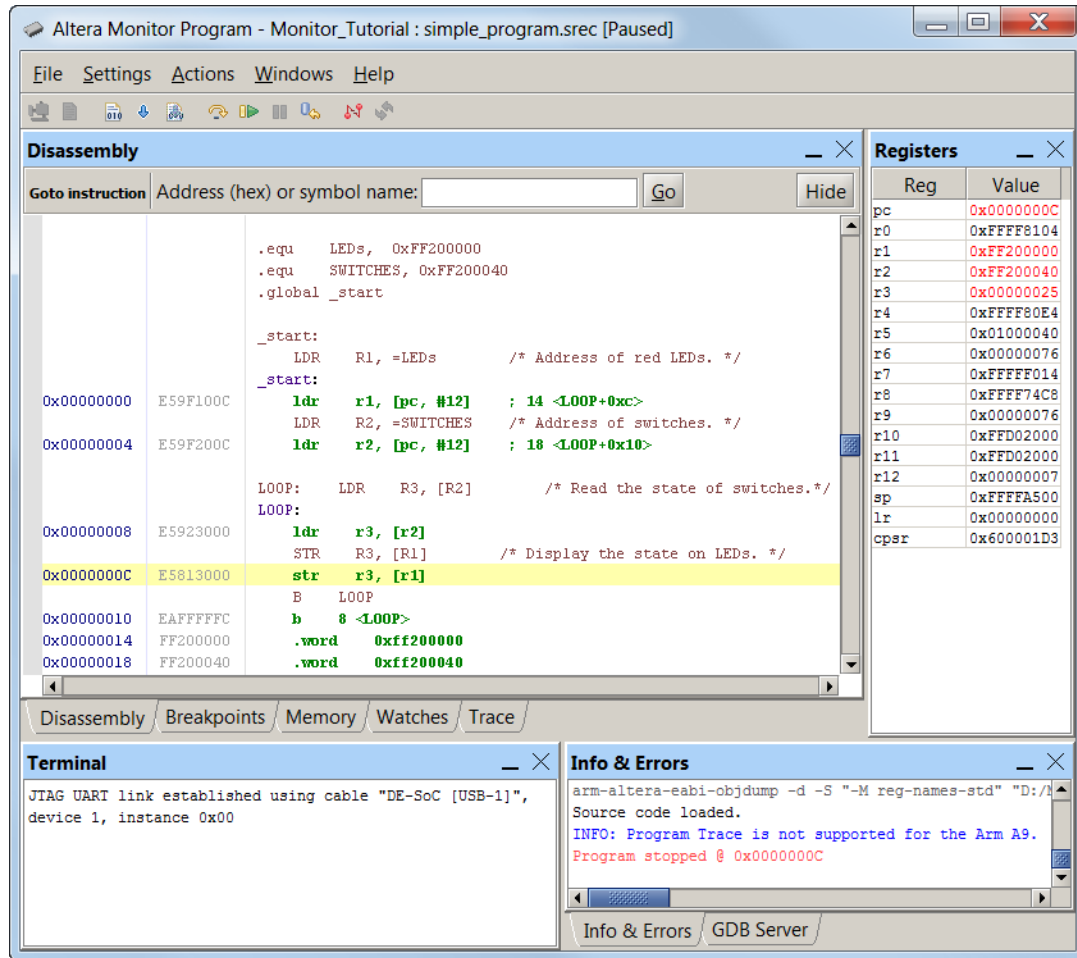

Figure 15. The Monitor Program display after the program has been stopped.
Figure 15 shows an example of what the display may look like when the program is halted by using the **Stop** command. The display highlights in yellow the next program instruction to be executed, which is at address 0x0000000C, and highlights in red the values in the processor registers that have changed since the last program stoppage. Other screens in the Monitor Program are also updated, which will be described in later parts of this
In Figure 15, the Disassembly window shows the machine instructions for our program. The leftmost column in the window gives the memory addresses, the middle column displays the machine code at these addresses, and the rightmost column shows the corresponding assembly-language instructions.
1. In the Disassembly window, scroll to display the instruction that will have the breakpoint. For example, in the window in Figure 15 scroll to the Branch instruction at address 0x00000010.